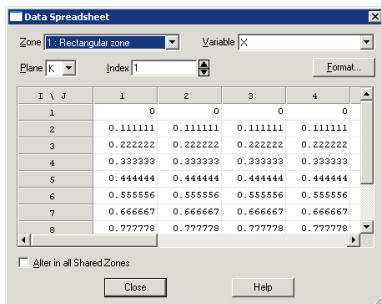

Figure 23-1. The Data Spreadsheet dialog.
1. From the Data menu, choose Spreadsheet. The Data Spreadsheet dialog appears, as shown in Figure 23-1.